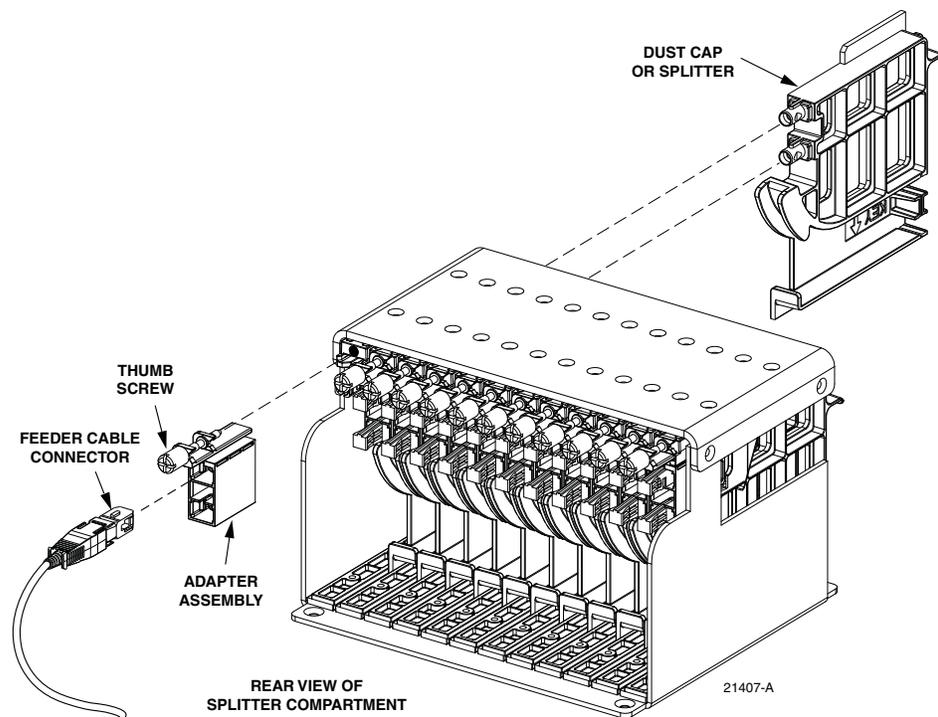

Figure 39. Splitter Compartment Adapter Replacement
3. Remove the feeder cable connector(s) from the rear side of the broken adapter assembly as shown in Figure 39 and install a dust cap on the connector(s).